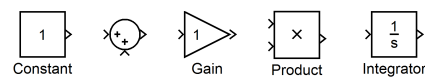

Figure 6: Simulink blocks.
1. Sketch the Simulink implementation of the described system using only the Constant, Sum, Gain, Product and Integrator blocks shown in Figure 6 below.